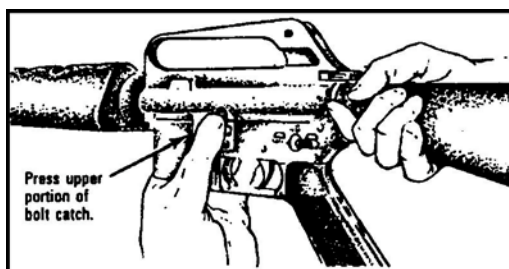

Figure 4. Releasing the bolt.
- f. Allow the bolt to go forward by pressing the upper portion of the bolt catch (Figure 4).